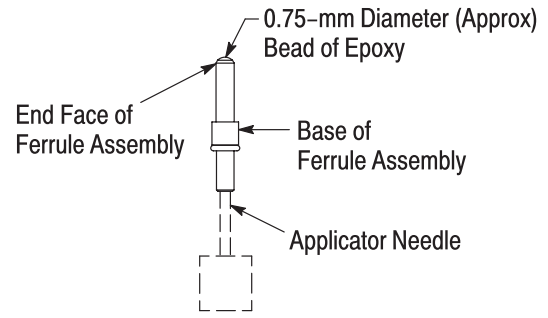

Figure 5
- 2. Hold the ferrule assembly vertically, and insert the needle tip into the base of the ferrule assembly until it is against the back (end closest to the base) of the ferrule assembly. Refer to Figure 5.